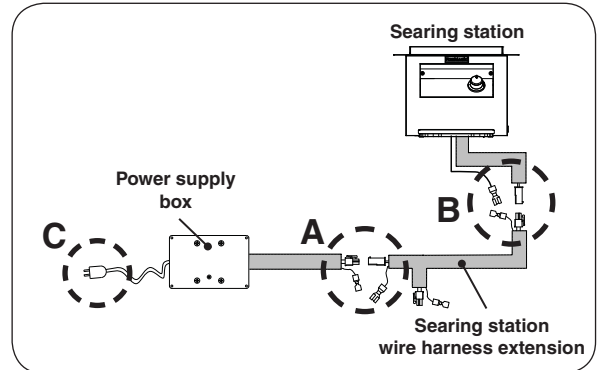

Fig. 18-1 Connect searing station to power supply
3. Connect the power supply box connectors to the searing station wire harness extension, as shown in Fig. 18-1, **A** (molex and ground wire connections).
4. Connect the searing station wire harness extension to the searing station, as shown in Fig. 18-1, **B** (molex and ground wire connections).
5. Connect the cord coming from the power supply box to a **120VAC (15 AMP minimum) GFCI GROUNDED 3-wire receptacle**. See Fig. 18-1, **C** and Fig. 18-2. The GFCI receptacle must be a WEATHER-PROOF IN-USE COVERED RECEPTACLE.